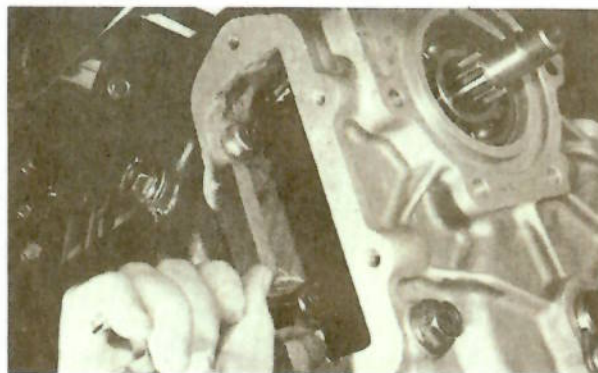

FIG. 6 — REMOVING AN INSIDE BOLT FROM THE POWER TAKE-OFF COVER HOLE.
15. Remove the five hex-head cap bolts and lock washers that secure the transfer case to the transmission case. Two of the five bolts are located inside the case and can be reached through the power take-off cover hole, (Fig. 6).
50. Secure the transfer case to the transmission case with the five hex-head cap bolts and spring washers. Note, two of the bolts are short and are secured at the inside of the case, access is through the power take-off cover hole. (Refer to Disassembly Fig. 6) Carefully tighten the five bolts sequentially to 3.5 - 4.1 m-kG (25 - 30 ft-lbs.) torque.